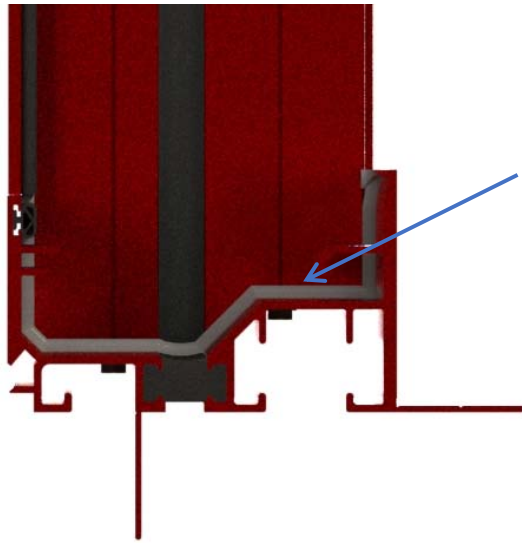

Fig. 9a
- A. Apply self-leveling sealant to both corners inside where the sub-sill and receptor come together covering all seams. (Fig. 9a & 9b)